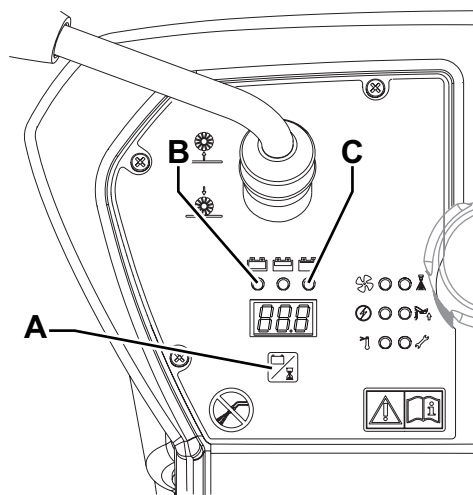

Figure 3
1. Start the machine by turning the ignition key (61) to "I" and keeping the switch (A, Fig 3) pressed.
- Red warning light (B): WET batteries
- Green warning light (C): GEL-AGM batteries
3. If necessary, release and press again the switch (A) within 5 seconds to change setting.